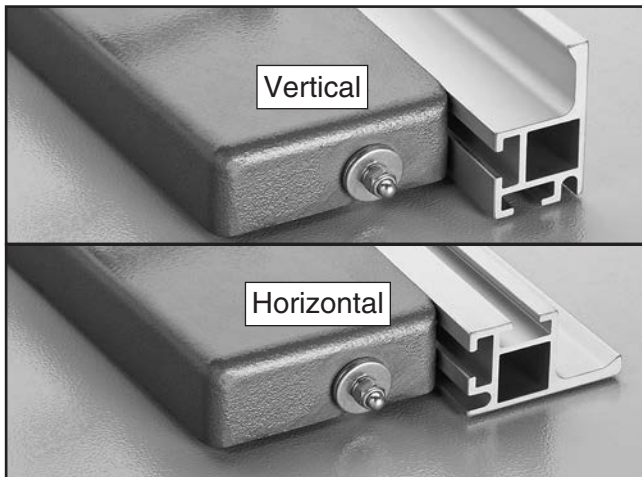

Figure 107. Rip fence positions.
4. Place fence in vertical position (see **Figure 107**) for thicker workpieces, or in horizontal position for thinner workpieces and for angled cuts where blade is tilted over fence.